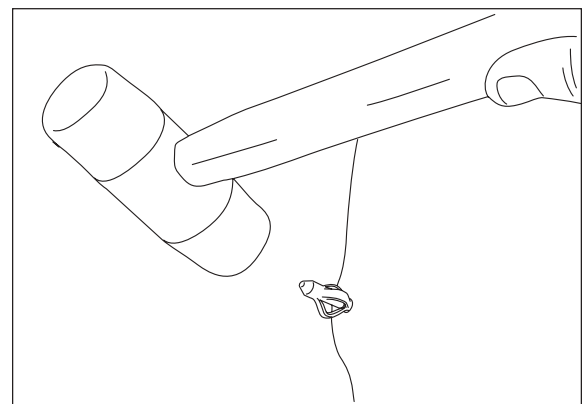

Figure 20
4. From the opposite side, use a rubber mallet and carefully tap the rivet posts back into the rivets in order to secure them properly (Figure 20). Repeat this process for all remaining rivets.